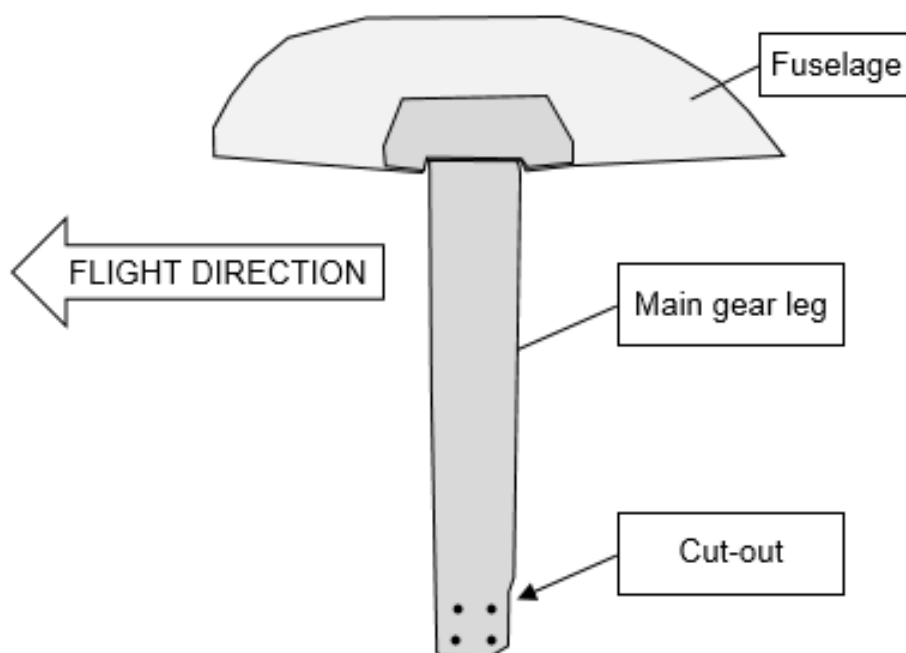

Fig. 2: Main gear leg installation (illustrative sketch)
- 4) Be careful of correct position according to the flight direction. The leg has to be installed so that the cut out on the leg bottom part must be on the rear side, see Fig. 2 above.